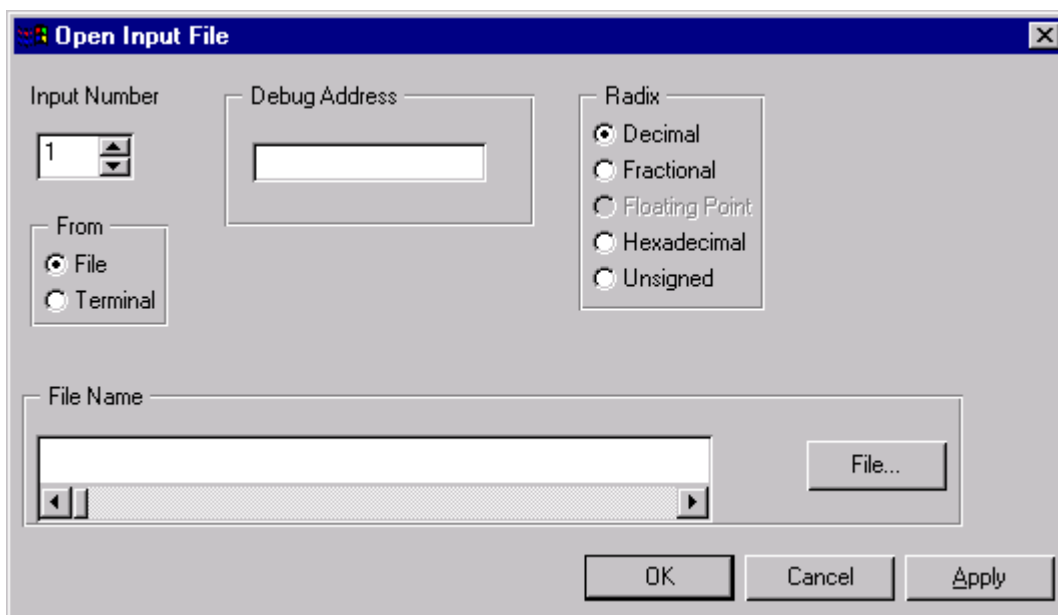

Figure 6-1. Providing Input Data
1. From the **File** menu choose **Input**, then select **Open**. The dialog box in Figure 6-1 appears.